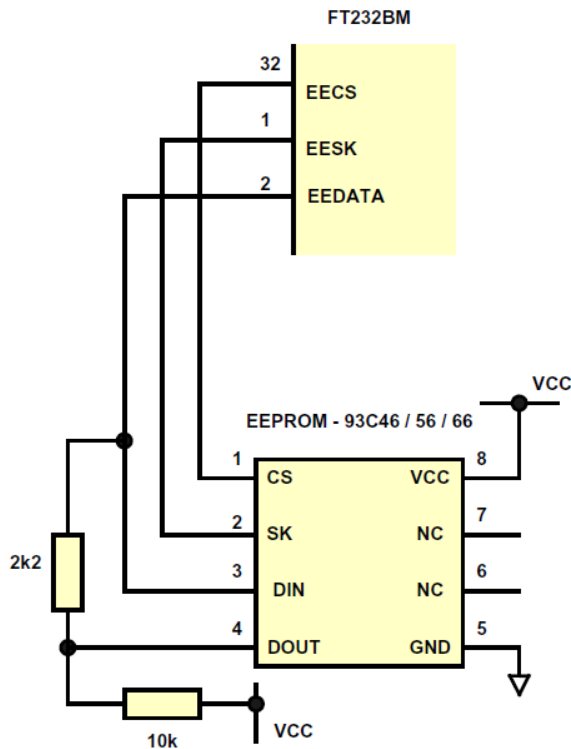

Figure 7.3 EEPROM Configuration
Figure 7.3 illustrates how to connect the FT232BM to the 93C46 (93C56 or 93C66) EEPROM. EECS (pin 32) is directly connected to the chip select (CS) pin of the EEPROM. EESK (pin 1) is directly connected to the clock (SK) pin of the EEPROM. EEDATA (pin 2) is directly connected to the Data In (Din) pin of the EEPROM. There is a potential condition whereby both the Data Output (Dout) of the EEPROM can drive out at the same time as the EEDATA pin of the FT232BM. To prevent potential data clash in this situation, the Dout of the EEPROM is connected to EEDATA of the FT232BM via a 2.2K resistor.